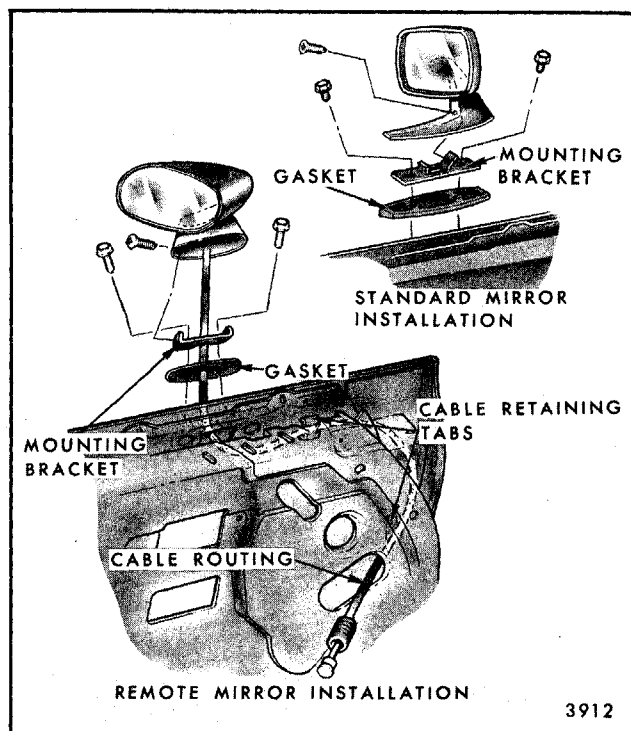
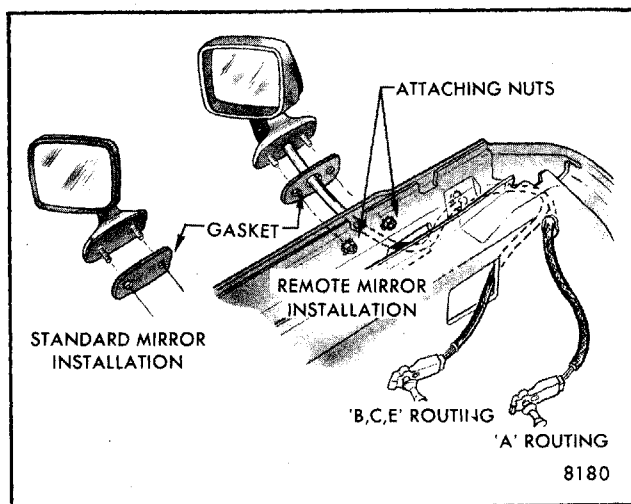

Fig. 5-106-Door Outside Remote Mirror Removal - F, H (less 07,27) and X Styles - Left Side Only
Fig. 5-107-Door Outside Mirror - Typical All A, B, C, E, K and H-07-27 Styles - Left Side
2. Detach cable from any retaining tabs in door (Fig. 5-106).
3. On F, H (less 07,27) and X styles, remove attaching screw in mirror base and screws in mounting bracket (Fig. 5-106) and remove mirror and cable from door. On all other styles, remove attaching nuts (Fig. 5-107) and remove mirror and cable assembly from door.
1. Remove attaching screw in base of mirror and remove mirror (Fig. 5-106).
2. Remove mirror base to door outer panel stud nuts (Fig. 5-107) and remove mirror from door.